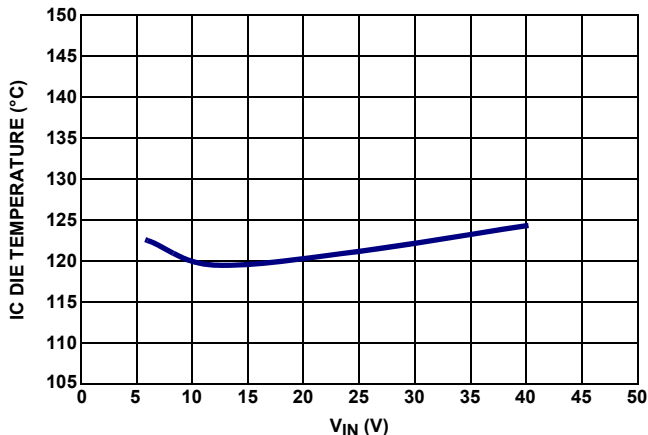

FIGURE 12. IC DIE TEMPERATURE UNDER +105°C AMBIENT TEMPERATURE, 100 CFM, 500kHz, VOUT = 5V, IO = 2A
Second: From the thermal perspective, the die temperature shouldn't be above +125°C with the power loss dissipated inside of the IC. Figures 12 through 14 show the thermal performance of this part operating at different conditions. The part can output
Figure 12 shows a 5V, 2A output application over  $V_{IN}$  range under +105°C ambient temperature with 100 CFM air flow.
Basically, the die temperature equals the sum of ambient temperature and the temperature rise resulting from power dissipated from the IC package with a certain junction to ambient thermal impedance  $\theta_{JA}$ . The power dissipated in the IC is related to the MOSFET switching loss, conduction loss and the internal LDO loss. Besides the load, these losses are also related to input voltage, output voltage, duty cycle, switching frequency and temperature. With the exposed pad at the bottom, the heat of the IC mainly goes through the bottom pad and  $\theta_{JA}$  is greatly reduced. The  $\theta_{JA}$  is highly related to layout and air flow conditions. In layout, multiple vias (20) are strongly recommended in the IC bottom pad. In addition, the bottom pad with its vias should be placed in ground copper plane with an area as large as possible connected through multiple layers. The  $\theta_{JA}$  can be reduced further with air flow. Refer to Figure 12 for the thermal performance with 100 CFM air flow.